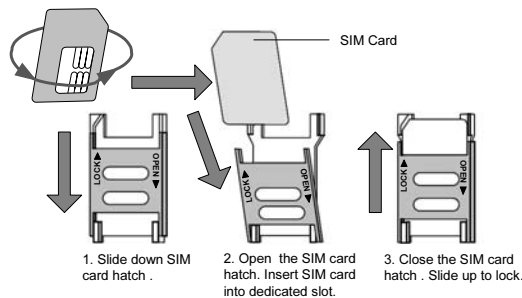

Figure 3. SIM Card Insertion
3. Place the SIM card in the GSM/GPRS BUS Module, following the steps defined in Figure 3.